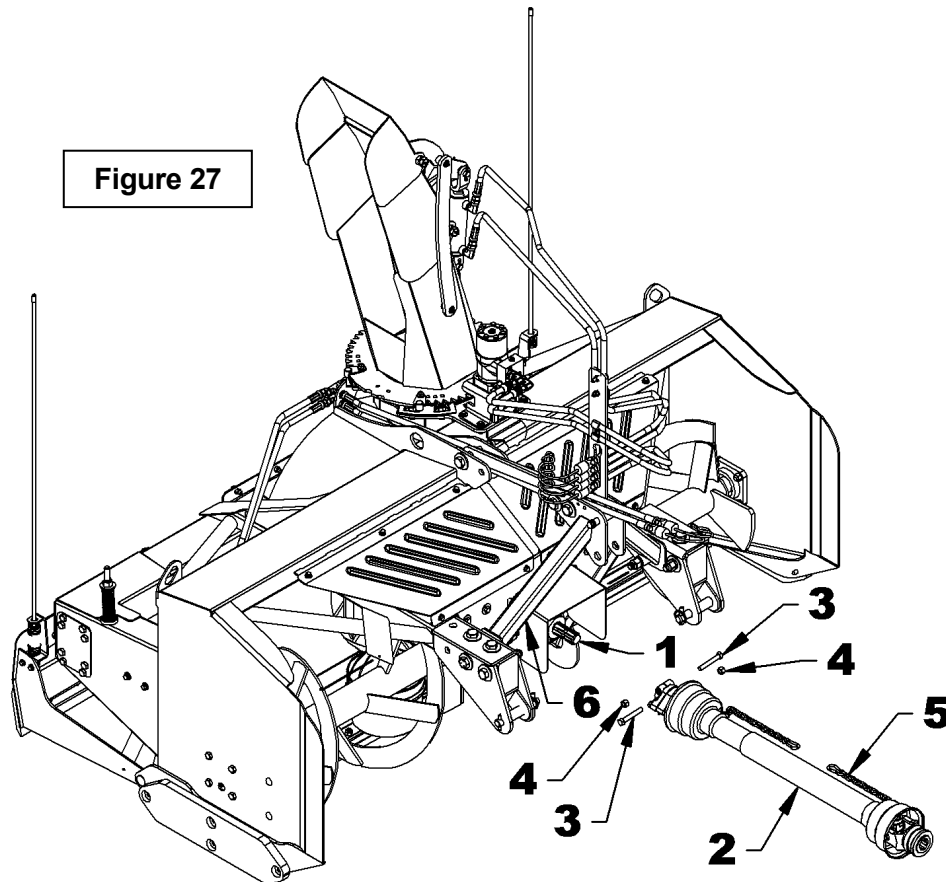

Figure 27
1. **Figure 27:** Remove the paint from the gearbox shaft (item 1) and grease if needed. Grease also the sliding surfaces and yoke (item 2) of the driveline.
2. **Figure 27:** Remove the bolts (item 3) from the yoke (item 2) and connect the yoke to the gearbox shaft (item 1). Secure the driveline by reinstalling the bolts and nuts (items 3-4) in the order shown. Tighten all bolts, including the shearbolt, according to the ***Torque Specification Table*** at the end of the manual.
3. **Figure 27:** Install the driveline (item 2) on the tractor shaft.
4. **Figure 27:** Attach the safety chain (item 5), snowblower side, around the right or left hitch to prevent driveline shield from rotating. Attach the safety chain, tractor side, to the tractor appropriate location.